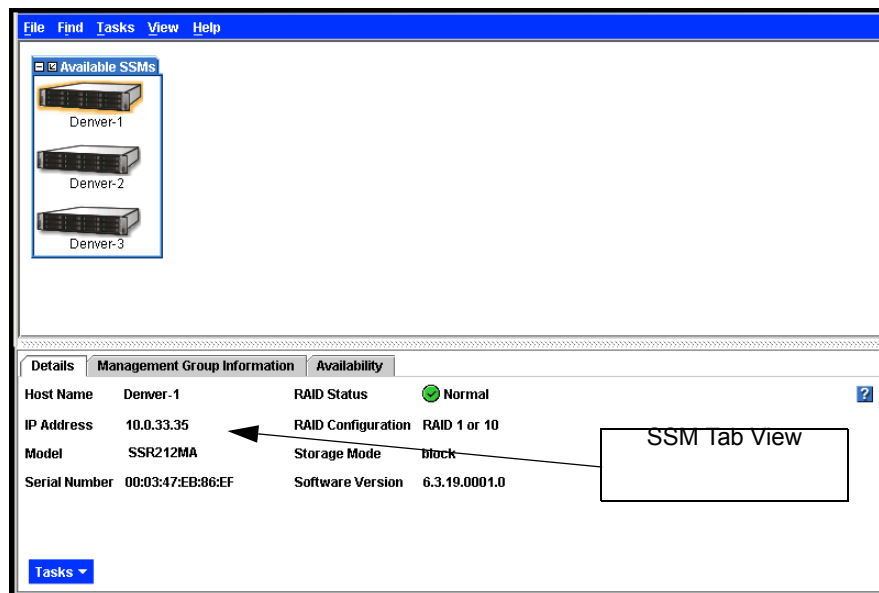

Figure 132. SSM Tab
3. Click Done from the SSM Edit Configuration window to return to the main Console window with the SSM tab view, shown in Figure 132.